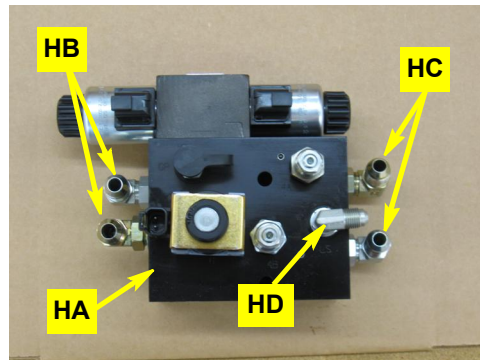

Figure 1: Prepared hydraulic block
Remove the plastic plugs from hydraulic steering block **HA** and install adapter fittings as follows (Figure 1):
Prepare switch bracket **SC** as detailed (Figure 1 with inset):
- Put an upward 90° bend 1" from the pre-drilled end and apply a slight clockwise twist (Figure 1 and inset)
Figure 1 with inset: Switch bracket preparation (not to scale)